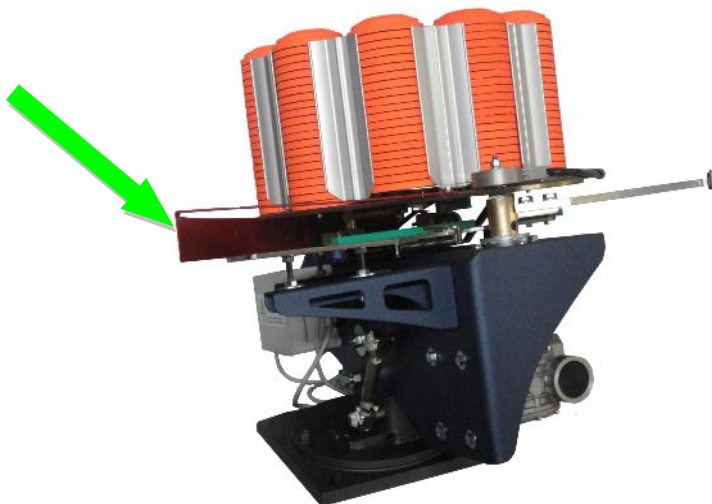

Fig.4
2. To apply and verify the security measures as seen in fig. 4 ;